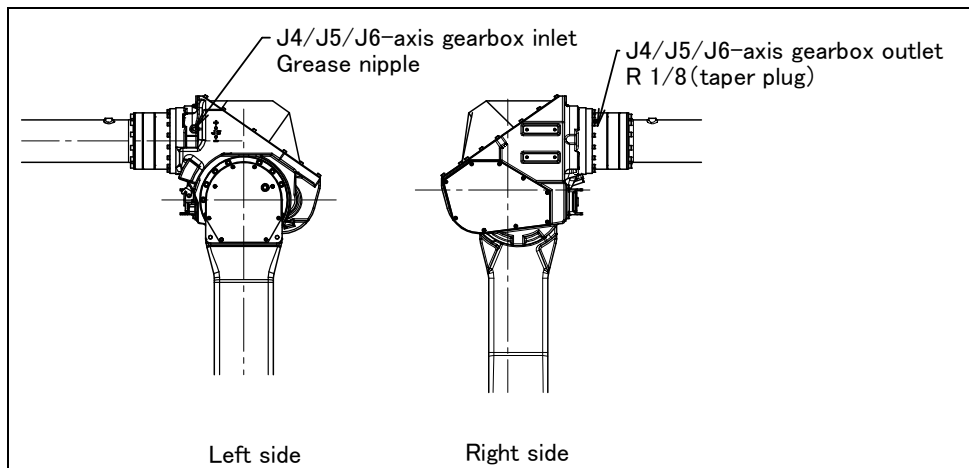

Fig. 7.3.4 Replacing grease of the J4/J5/J6-axis gearbox
- 3 Remove the seal bolt from the grease outlet. (Fig. 7.3.4)